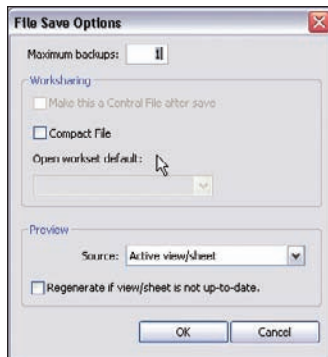

FIGURE 1.52 The options in the File Save Options dialog box let you specify the number of backups and the view for the preview.
3. In the File Save Options dialog, you will see at the top a place where you can specify the number of backups, as shown in Figure 1.52. Set this value to 1.